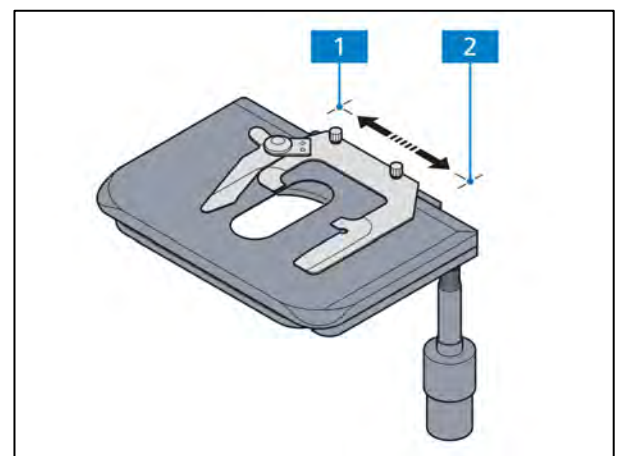

Fig. 3-11 Recovering the stage travel range in X-axis
- Hold the specimen holder's two screws and move it to the left and right until hits the end stops, the reset is complete (Fig. 3-11/1, 2).